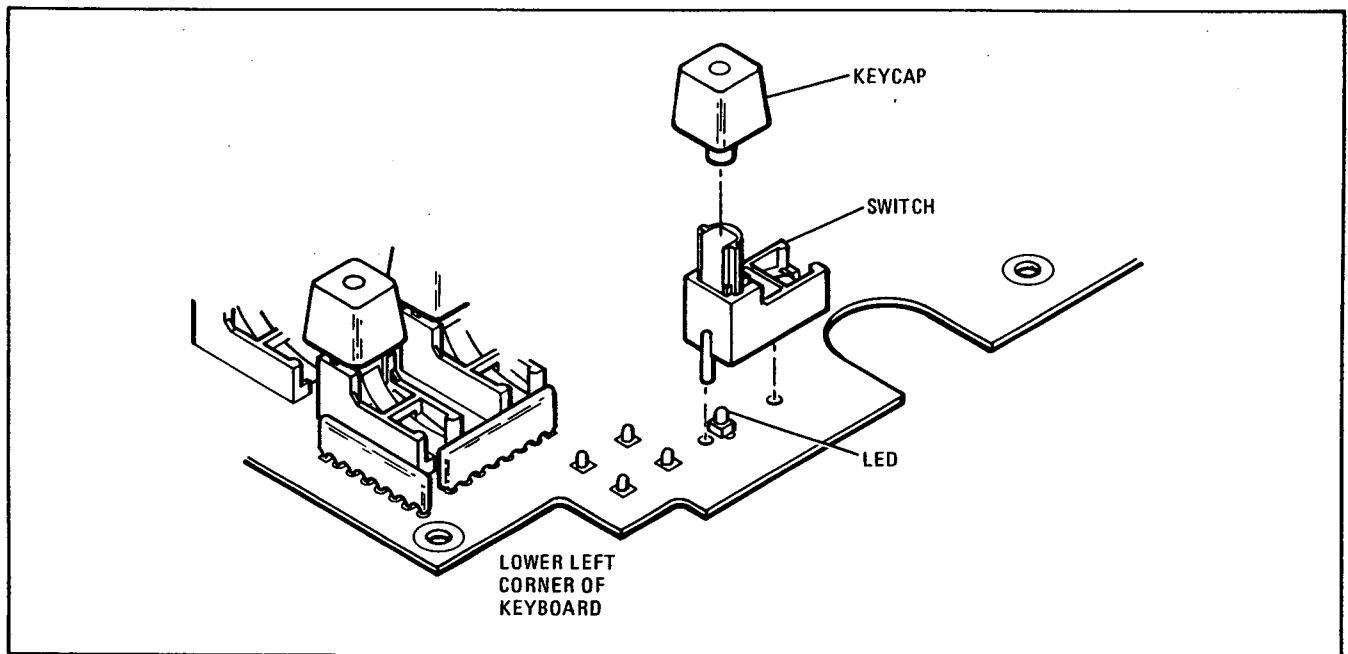

Figure 1. CALIBRATION Switch Location
14. Locate the position on the Keyboard and Display Assembly where the CALIBRATION switch will be installed (lower left corner of A1). Identify the holes for the switch posts, the holes for the LED, and the switch pads (see Figure 1).
16. Place the switch (HP 5060-9436) in the proper position on the circuit board (see Figure 1). You should see the LED inside the white stem of the switch if the switch is properly placed.